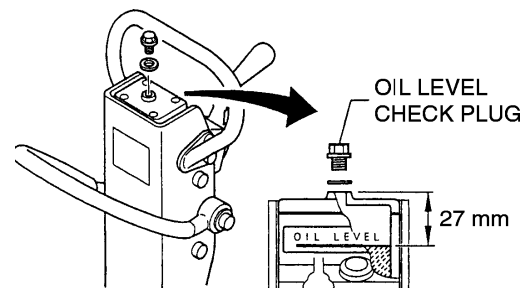

Figure 18. Oil Level Check Plug
1. Check hydraulic oil in every 100 hours of operation. With handle bar positioned vertically (storage position), remove oil level check plug (Figure 18) from the top of hydraulic pump and check for proper oil level.